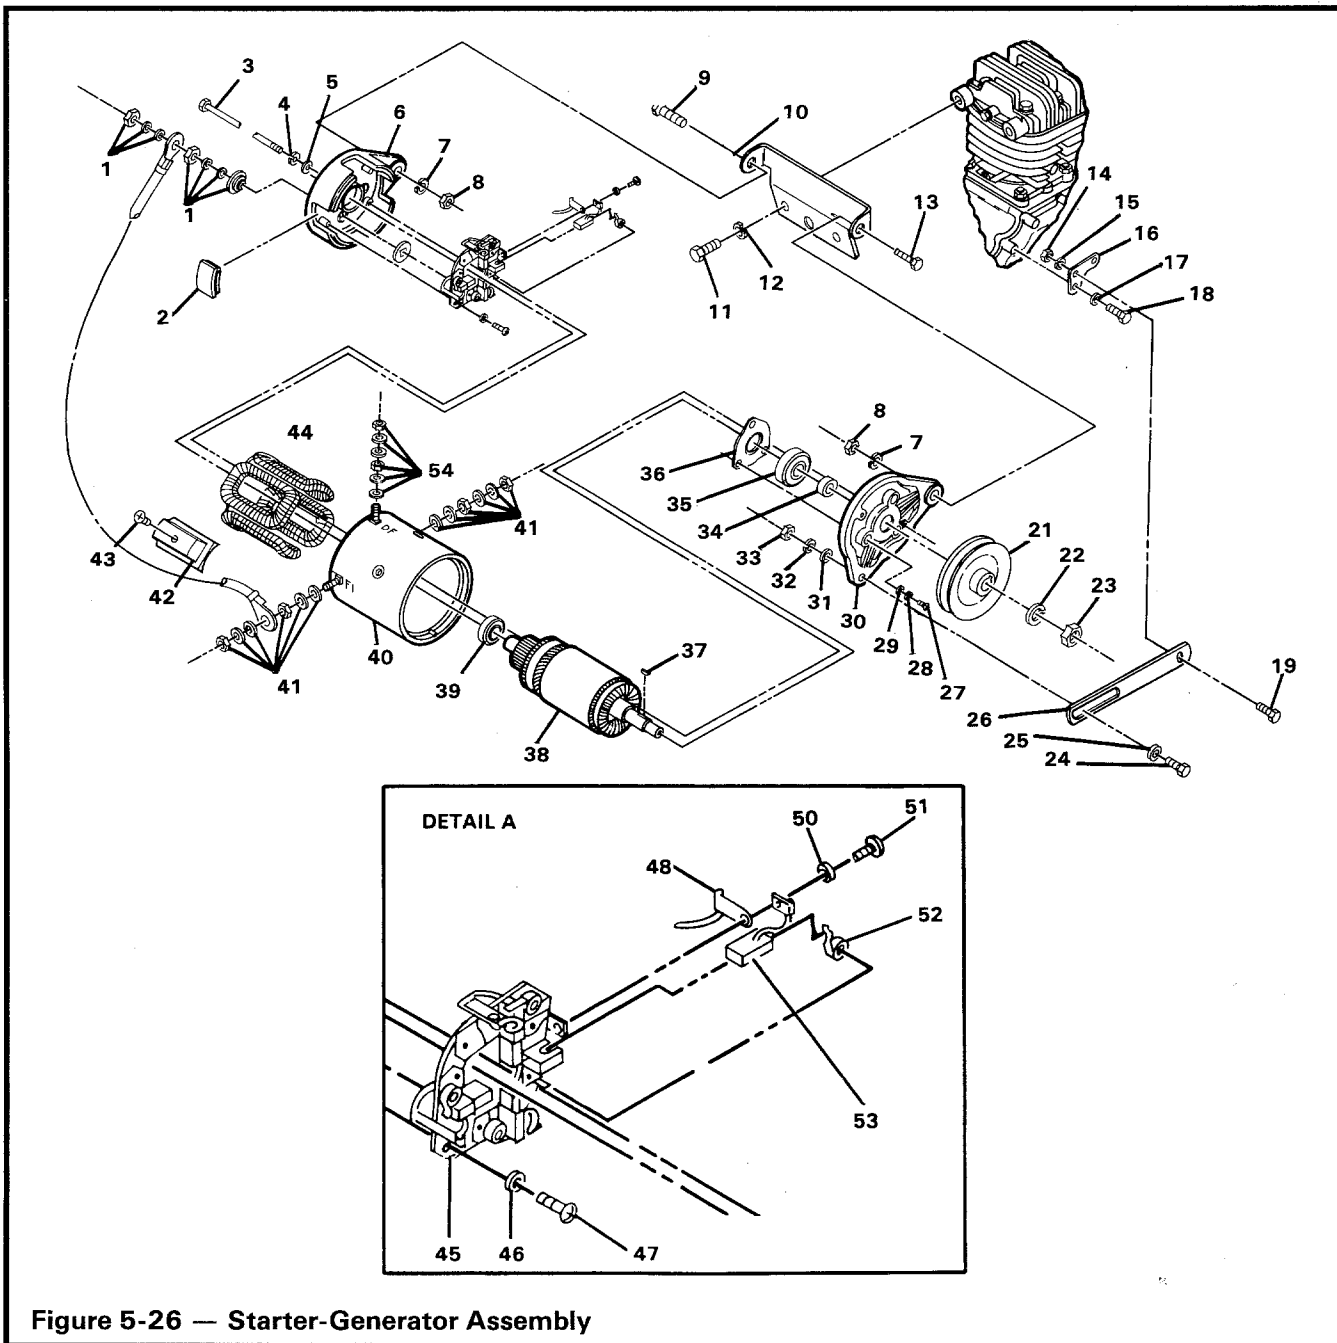
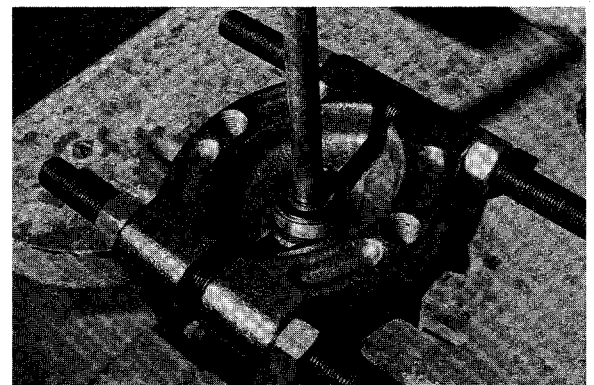

Figure 5-26 — Starter-Generator Assembly
Figure 5-28
3. Remove lower mounting/adjusting bolt (24), washers (25, 31 and 32) and nut (33) and remove belt (Figure 5-26).
4. Remove upper mounting bolts (9 and 13), nuts (8), lockwashers (7).
1. Remove two bolts (3) and washers (4 and 5), pull commutator end cover (6) free of starter frame (40) (Figure 5-26).
2. Remove brush covers (2), screws (51) and lockwasher (50), brush springs (52), and brushes (53).
3. Remove terminal nuts, washers and lockwasher (41 and 1), brush holder screws (47) and lockwasher (46) and brush holder (45).
4. To separate armature (38) from drive end cover (30), remove nut (23), lockwasher (22), pulley (21), shaft key (37), bearing retainer screws (27) and washers (28 and 29).
5. To separate commutator bearing (39) or drive end bearing (35) and spacer (34) from armature (38) use CLUB CAR bearing puller #1012811 and wedge attachment tool, #1012812 (Figure 5-28).
1. Install field coil assembly (44) into frame (40) and secure using pole shoes (42) and pole screws (43). Tighten pole shoe screws to 9 ft.-lbs. torque (**Figure 5-26**).
3. See **Figure 5-26** for correct stacking of wire mounting bolt hardware.